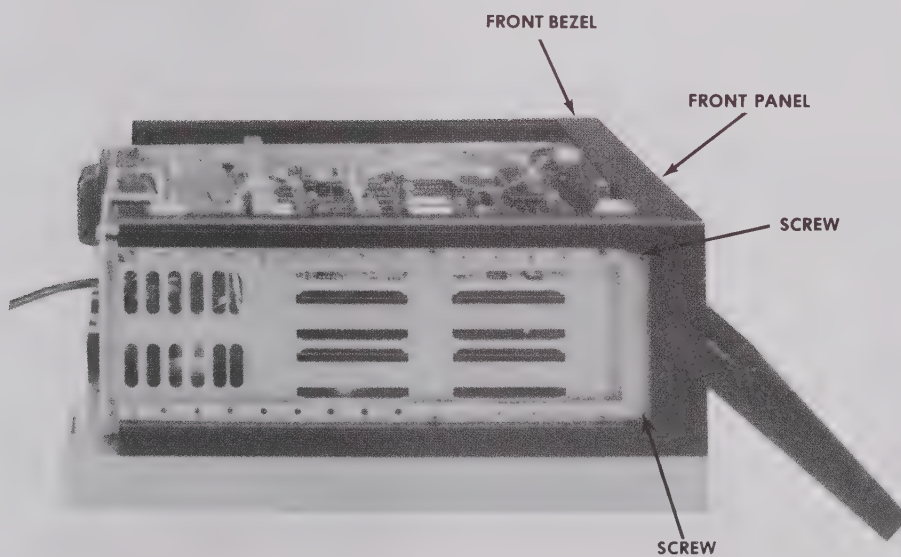

Figure 2-2 Releasing the Front Panel
3. Front Panel Subassembly. In order to release the front panel subassembly from the chassis, remove the two screws near the front of each side (Figure 2-2).
11. Replace the two screws on each side that holds the front panel to the frame (Figure 2-2).